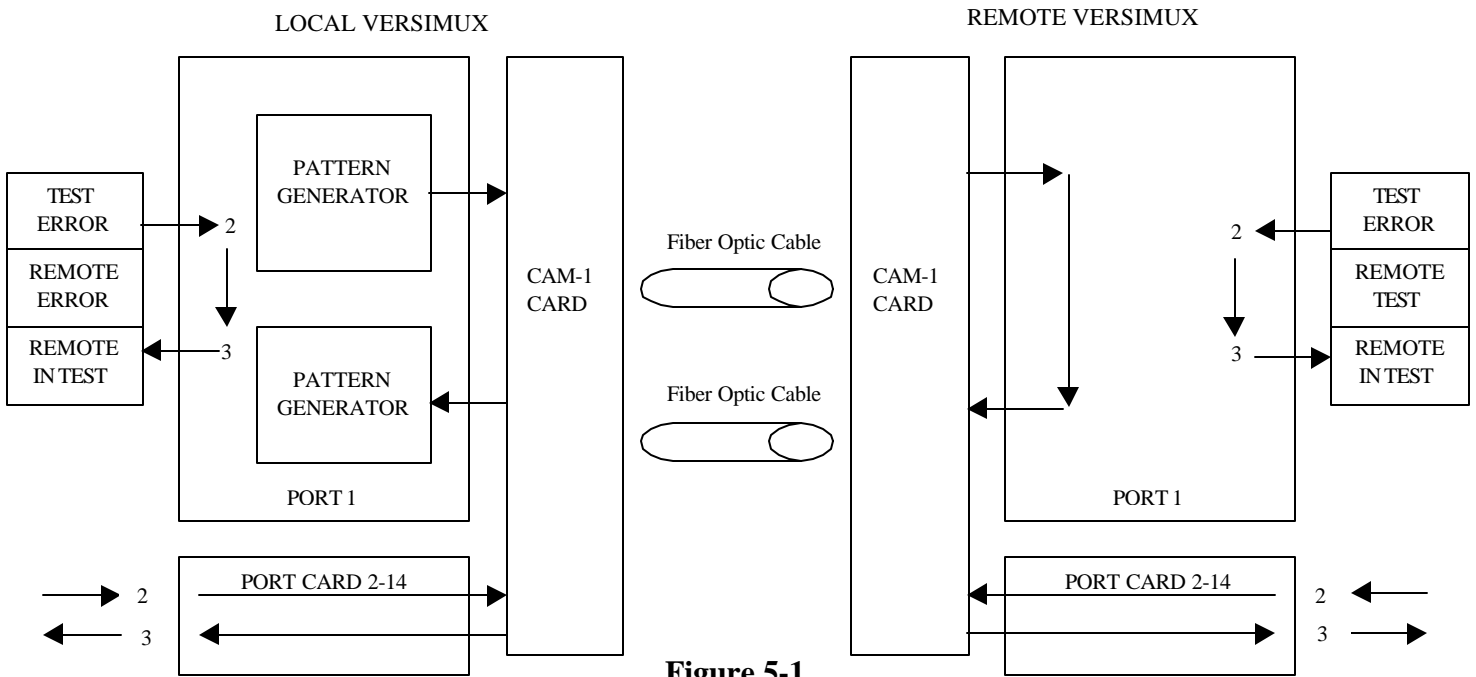

Figure 5-1
1. To perform a diagnostic loop test simply set the test/operate switch (S2) to the TEST (up) position. In the test mode the local port card will generate a pseudo-random pattern and transmit it to the remote port card in lieu of the data signal (see Figure 5-1). At the remote port card the signal is recovered and looped back as SEND DATA. The pattern detector at the local unit will activate the TEST ERR lamp if a discrepancy is detected between the original pattern and the recovered pattern. The operation of the test circuitry may be verified by momentarily depressing the Error Insert pushbutton. This will cause an error to be inserted into the test pattern. When the error is detected the TEST ERR lamp will be turned on.